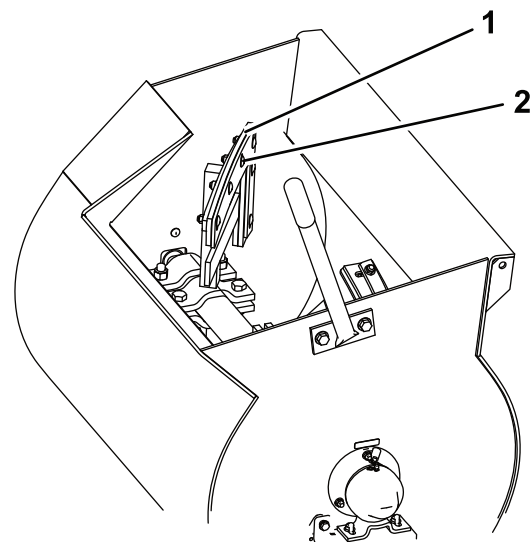

Figure 36
- Loosen the nuts and bolts that secure the paddle blades to the paddles (Figure 36).